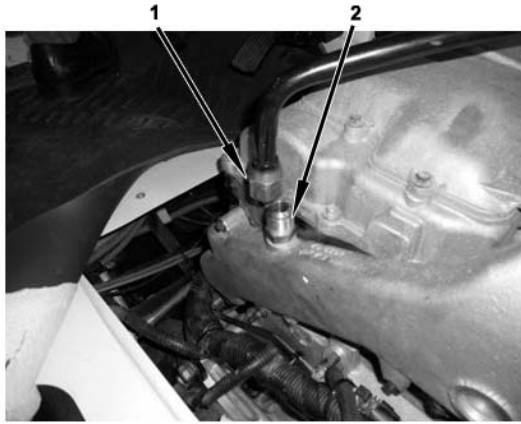

Figure 39 Cab Heat Tube
16. Connect cab heat tube (1) to coolant manifold (2) (Figure 39).